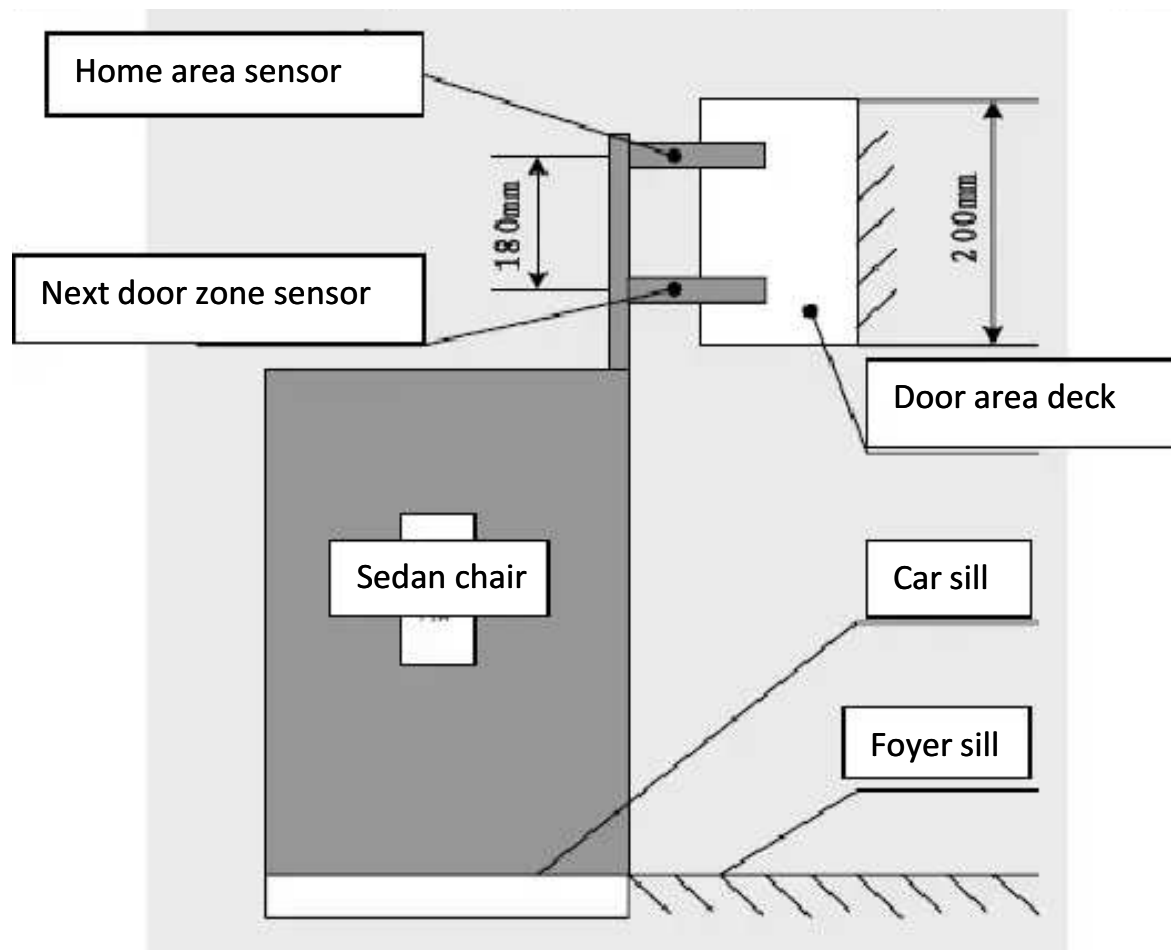

Figure 4-3-3-1 door zone switches and door area deck installation diagram
- (1) The elevator speed $\leq 1\text{m/s}$, the lift end station to the upper and lower strength of a Change-over switch.
- (2) Wherein the upper and lower end stop switch is mounted on the shaft, the end stop collision safety bow mounted on the car frame.
- (3) The lower end of the station switch should be installed in the car sill from the top (bottom) Floor landing door sill 1.5m (elevator speed $\leq 1\text{m/s}$), the switch operation Position.
- (4) Elevator speed $\geq 1.5\text{m/s}$ ultra- high-speed elevators should increase the number of client stations Volume, in order to implement a more secure protection. Specific installation position See the following table is set .
- (5) End station switch recommended -contact limit switch.
- (6) See Figure 4-3-3-2